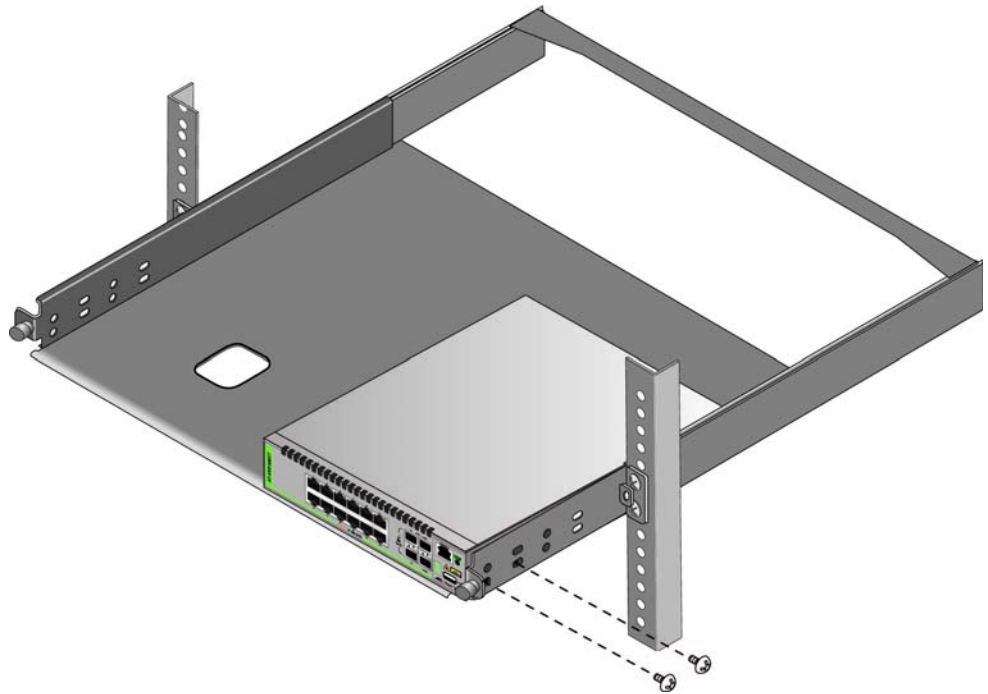

Figure 36. Securing the Switch to the AT-RKMT-J15 Bracket
8. Install two M4x6mm screws included with the switch to secure the switch to the bracket. Refer to Figure 36.